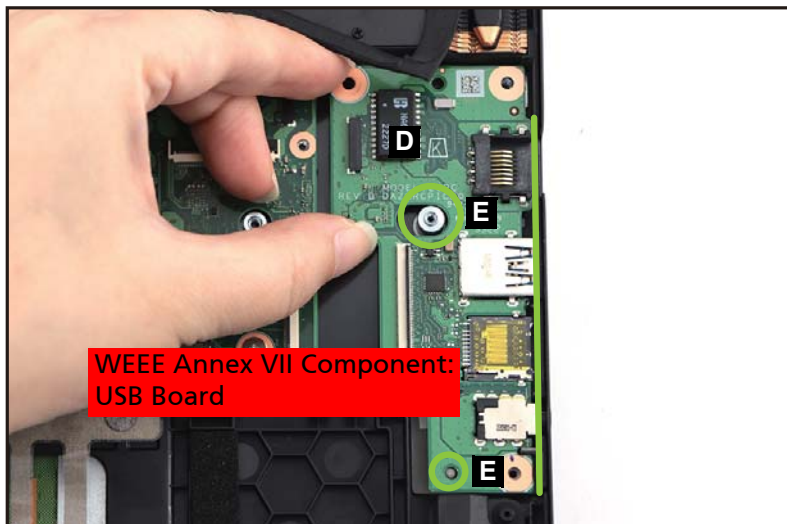

Figure 1-25. USB Board Removal
5. Release the USB board (D) from the I/O port slots and guide pins (E) on the top assembly (Figure 1-25). Then remove the USB board.